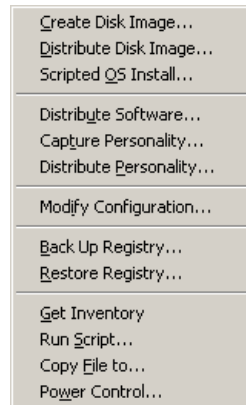

Figure 3-8 The Add Task menu
3. When you click Add, the menu in Figure 3-8 is displayed. Select the type of task you want to add and configure it accordingly. Refer to the *Altiris Deployment Solution 6.5 Reference Guide* for more information about the creation of job tasks.